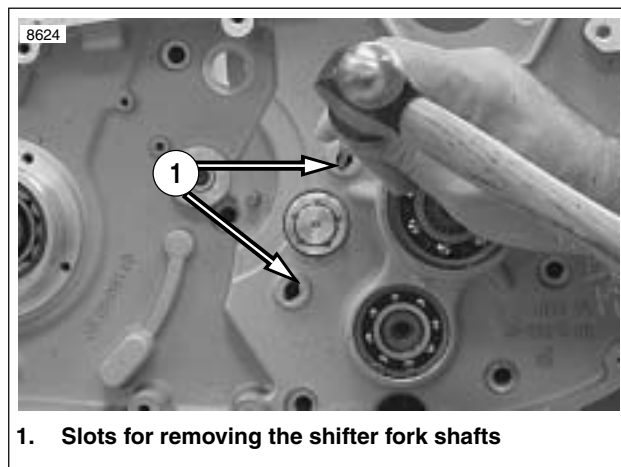

Figure 6-55. Removing Shifter Fork Shafts
1. See Figure 6-55. Remove shifter fork shafts.